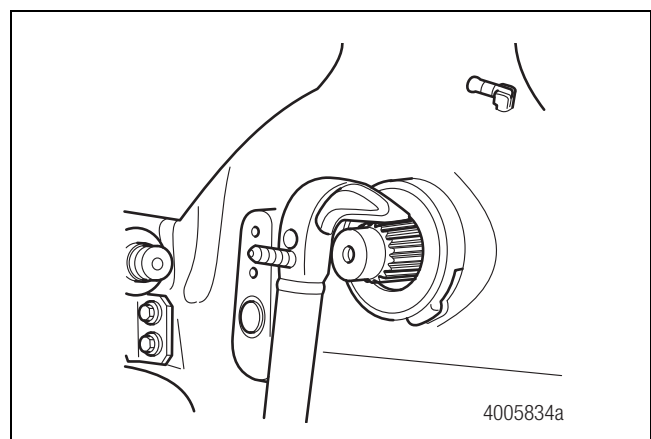

Figure 3.13
5. Use a seal puller or suitable tool to remove the output shaft seal. Discard the seal. Figure 3.13.